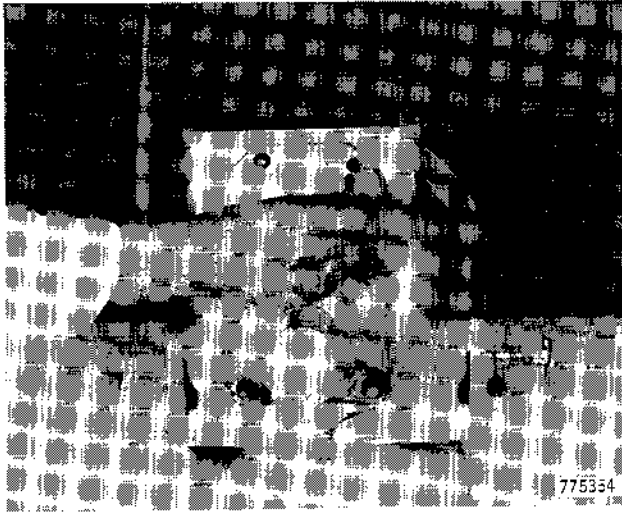

Figure 91
41. Install cap screw, Figure 91.